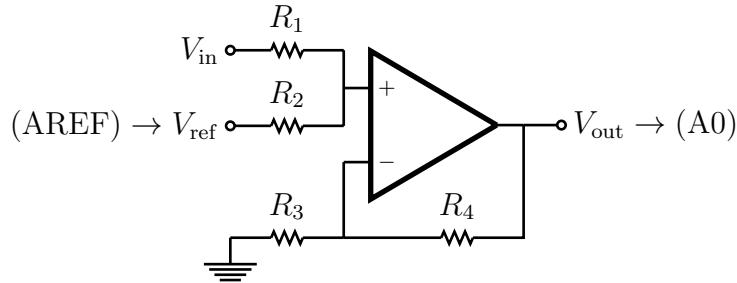

Figure 10: A DC level-shifter with unit gain. The points (AREF) and (A0) refer to the Arduino pins, which should be connected as shown.
The low-pass filter in Fig. 9 is used to convert PWM output (on pin 5 of the Arduino) into a DC reference voltage V_{ref} . This reference voltage is used as (1) the reference for the ADC, at pin AREF, setting the dynamic range of the ADC, and (2) the reference to the DC level shifter circuit in Fig. 10 so that input to the ADC is referenced to $V_{\text{ref}}/2$. In this way, we can adjust V_{ref} to match the dynamic range of our signal, and the DC offset will be set to the middle of this range. This will ensure that even for small signals, the full 8-bit precision of the ADC is being put to use.